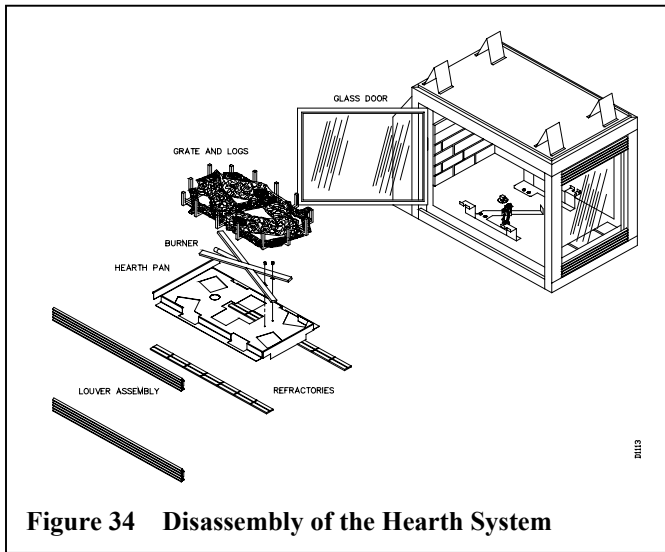

Figure 34 Disassembly of the Hearth System
1. Remove the grate with the logs left in place, by lifting the grate portion off of its stands and place the entire assembly outside of the unit for ease of reassembly. (Refer to figure 34 Disassembly of Hearth System)